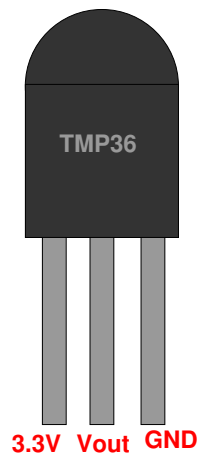

Figure 2: TMP36 Pinout
**WARNING!** the datasheet shows the pins from the *bottom* not the top. If you reverse the power/ground settings on the chip it will quickly heat up to 100+ degrees and will possibly be ruined! Follow the diagram in Figures 2 and you will be OK.